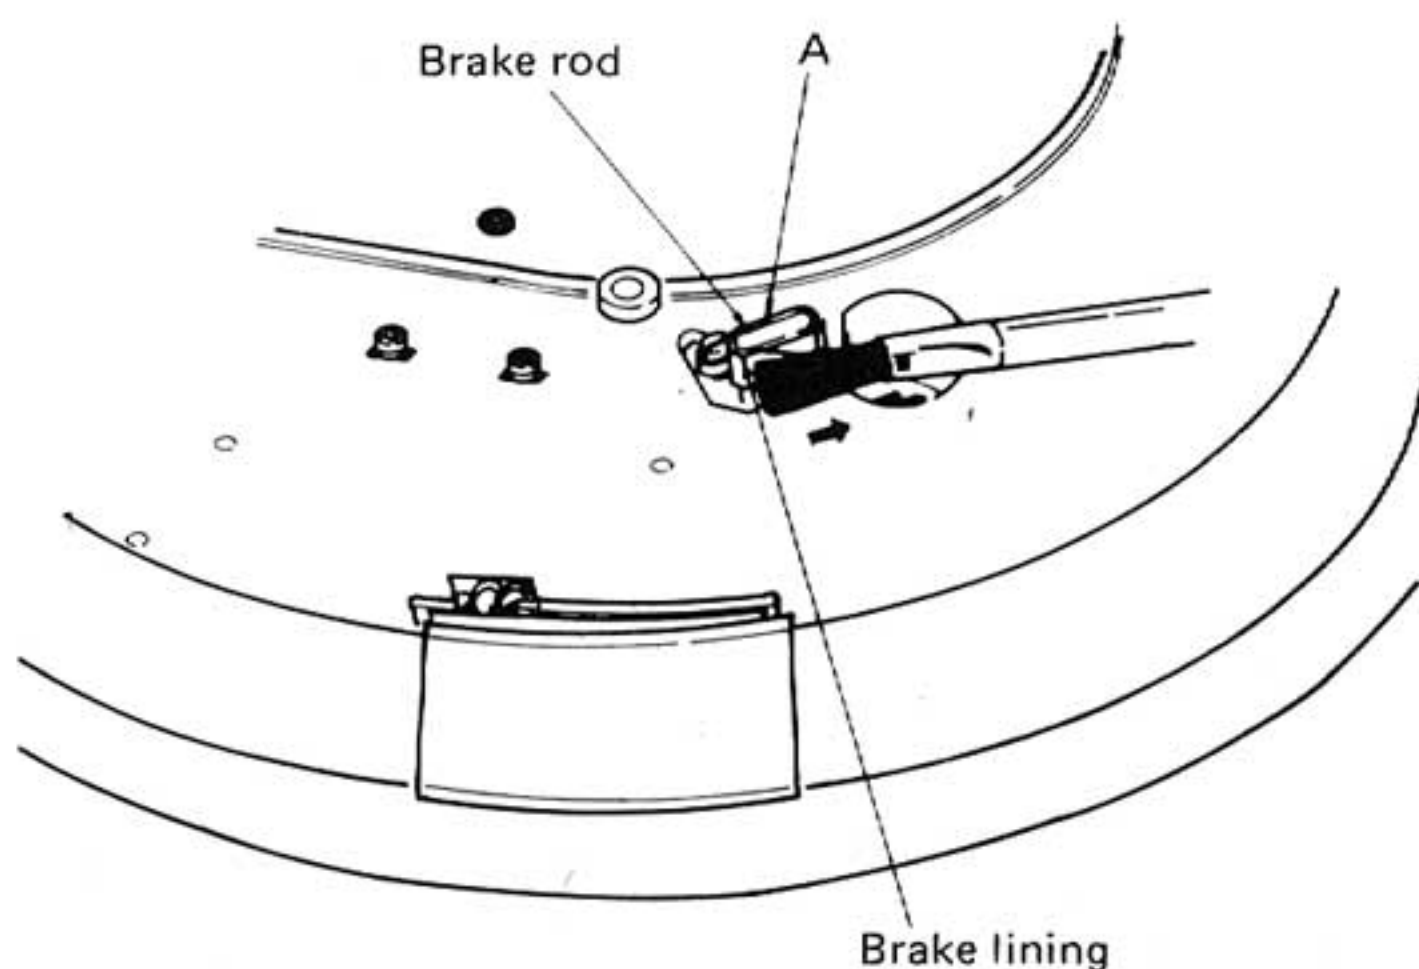

Fig. 14
1. Brush the friction surface of the brake lining, which contacts the platter, with a brush several times. Refer to Fig. 14.
3. Glue the brake rod to the brake lining at the double lining position (as shown by arrow A in Fig. 14) with rubber cement.